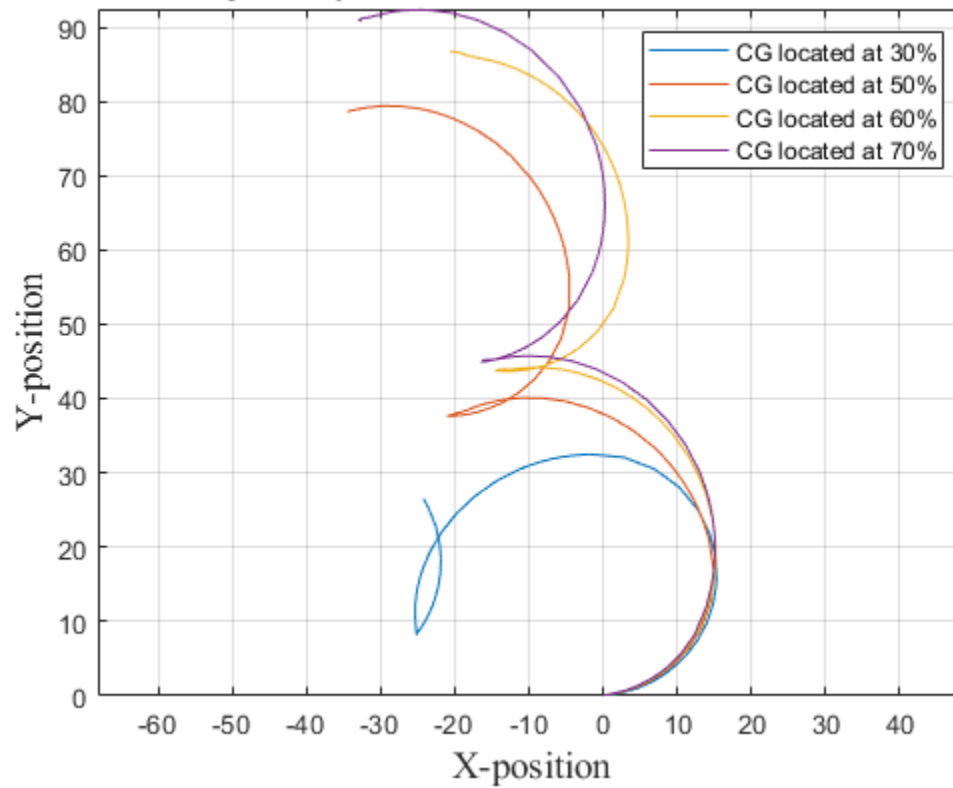

Fig 4.2 Vehicle trajectory for different CG locations at 60 km/h
- According to fig 4.2, the vehicle can't maintain the circular trajectory of any CG point at the velocity of 60km/h. All the configurations exhibit unusual behaviors. As mentioned in task 4.2, the tires can't provide enough lateral force to remain the vehicle under control during steering in this case.